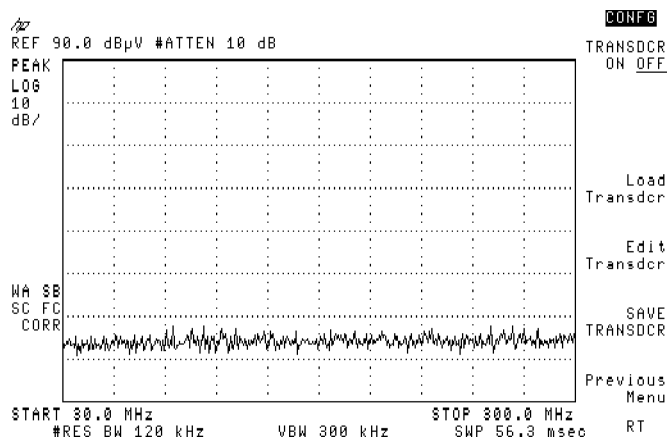
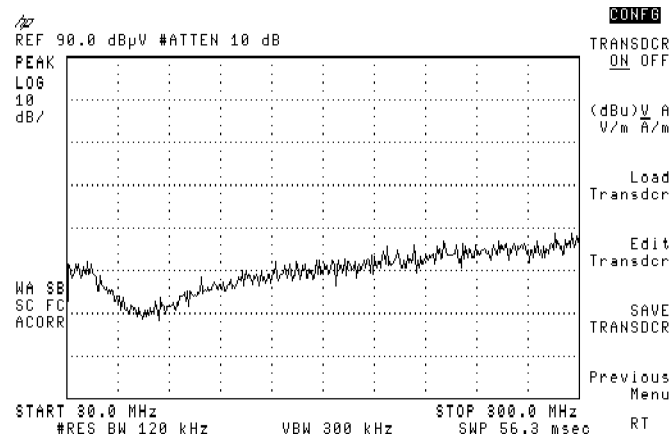

Figure 4-2. Transducer Turned Off (No Input)
Figure 4-3. Transducer Turned On (No Input)
Function	TRANSDCR ON OFF turns the current transducer correction factors on or off. ON will be underlined when the transducer correction factors are being applied. OFF is underlined when transducer correction factors are not activated. At any time, you can determine from the display whether the transducer factors are on. If correction is off and ampcor (A) is on, then only an A will be displayed on the lower left of the CRT. See Figure 4-2 and Figure 4-3. Refer to “Loading, Editing, Creating, and Storing Transducer Factors,” Chapter 3, for more information about transducer factors.